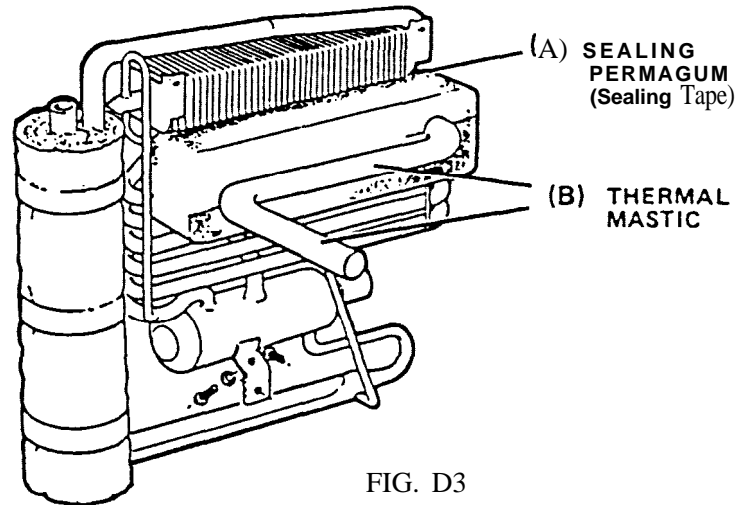

FIG. D3
2. Apply thermal mastic on the evaporator coil (B; FIG. D3).
3. Apply sealing permagum (sealing tape) on window insulation (A; FIG. D3).